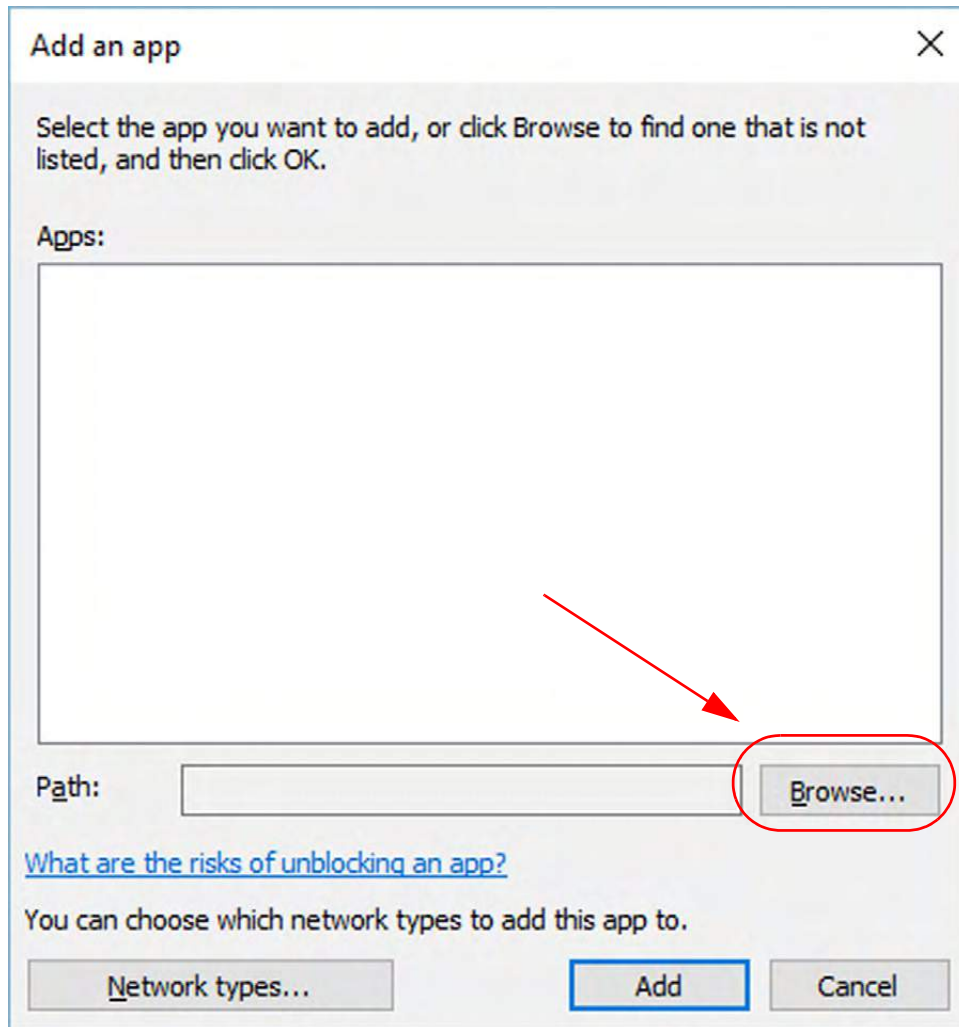

Figure 3.24: Windows 10: Add an App -> Browse
6. From the “Add an app” screen, select the Browse button. See Figure 3.24.